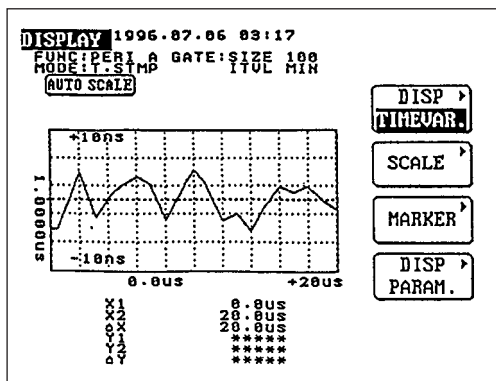

Figure 6 Variation with Time
- Variation with Time (Figure 6)